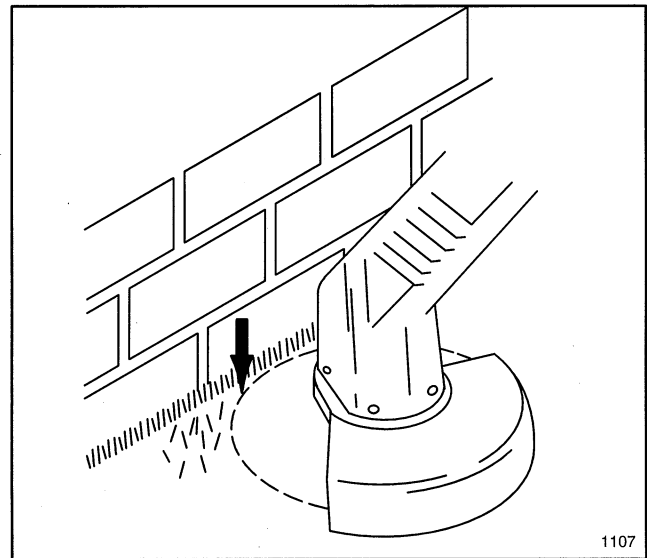

Figure 15
6. **DO NOT FORCE THE UNIT.** Allow the very tip of the nylon line to do the cutting (especially along walls) (Fig. 15). Cutting with more than the tip will reduce cutting efficiency and overload the motor.